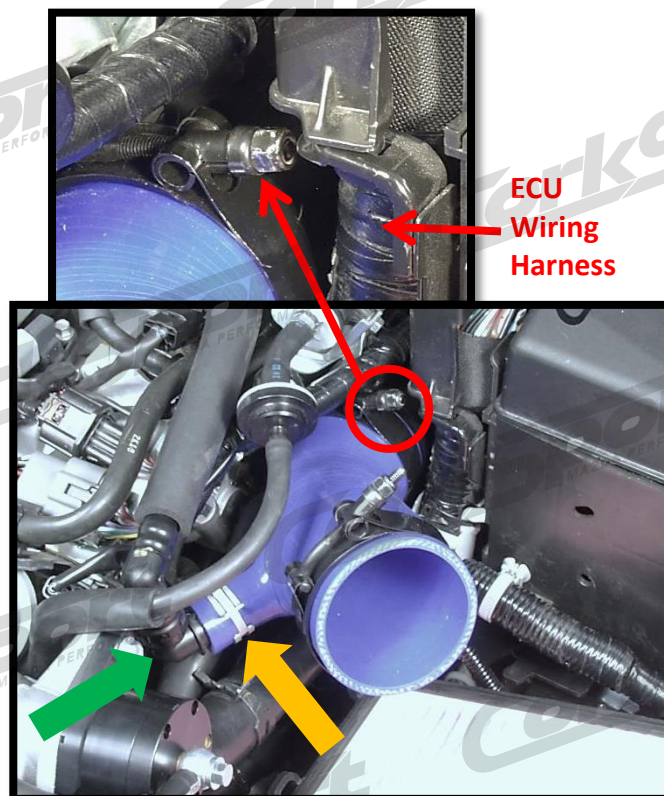

Figure 2a
- a) Place the 63/71 T-bolt clamp onto the smaller end of the silicone intake elbow. Push it onto the turbo inlet pipe (as shown in Figure 2a). Do not tighten the clamp at this time.
Be careful of the orientation of the turbo inlet pipe clamp! Incorrect positioning of the clamp could rub through the ECU wiring and cause severe damage. Safe clamp positioning shown with red circle in Figure 2a.
- b) Transfer the breather tube spring clamp from the factory intake elbow. Compress the spring clamp with pliers and place it onto the breather tube outlet on the silicone intake elbow (yellow arrow in Figure 2a).
- c) Push the 90 degree breather fitting into the silicone intake elbow (green arrow in Figure 2a).
- d) Place the 77/85 T-bolt clamp onto the open end of the silicone intake elbow (Figure 2a).